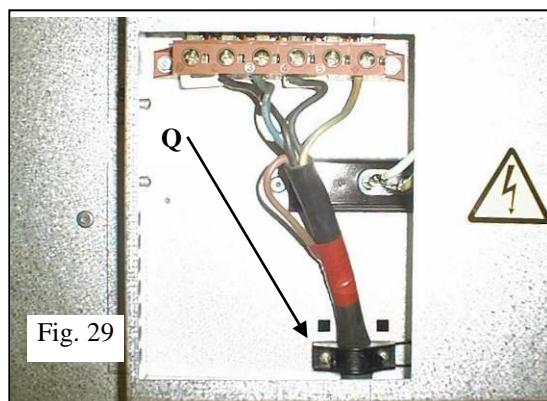

Fig. 29
- Secure the cable by means of cable clamp, item **Q** (Figure 29).